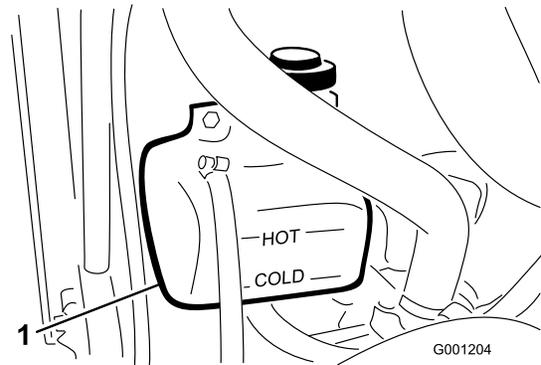

Figure 23
1. Check the level of the coolant in the expansion tank (Figure 23). The coolant level should be between the marks on the side of the tank.